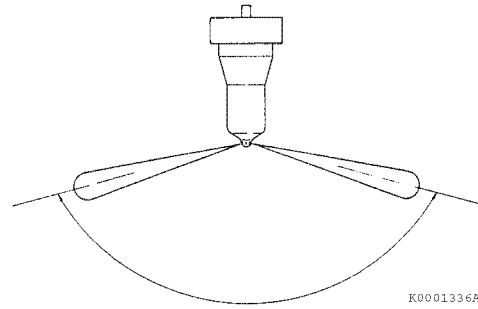
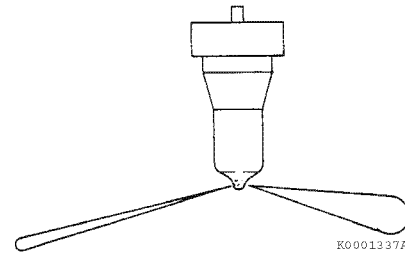

Figure 7-30
Figure 7-31
6. Pump the operating lever more rapidly to repeatedly “pop” the injector and observe the spray pattern. The pattern should be a very fine uniform spray (**Figure 7-30**). If a dripping or an uneven pattern is seen (**Figure 7-31**), service or replace the injector.